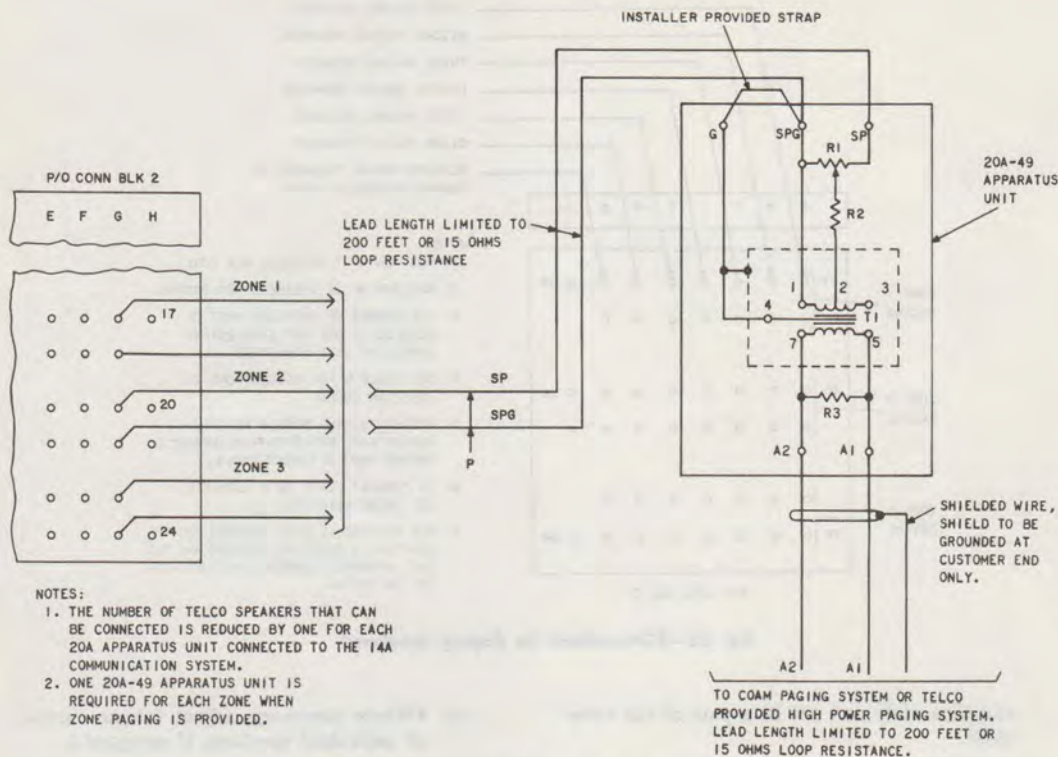

Fig. 33—Connections for 20A-49 Apparatus Unit
- 4.55 A customer-owned and maintained (COAM) paging system, or a separate telephone company-provided paging system, is connected to the 14A System through a 20A-49 apparatus unit (see Fig. 33). The 20A-49 apparatus unit is mounted externally to the KSU. Where zone paging is utilized, a separate 20A-49 apparatus unit is required for each zone.
- (1) Remove cover from the 20A-49 apparatus unit.
- (2) Mount the 20A-49 apparatus unit within 200 feet of the KSU (wherever the customer desires).
- (3) Connect the apparatus unit to the KSU as shown in Fig. 33. Wiring should be
(4) Have customer connect his paging system to the 20A-49 apparatus unit, using shielded wire, as shown in Fig. 33.
(5) Replace cover on the apparatus unit.